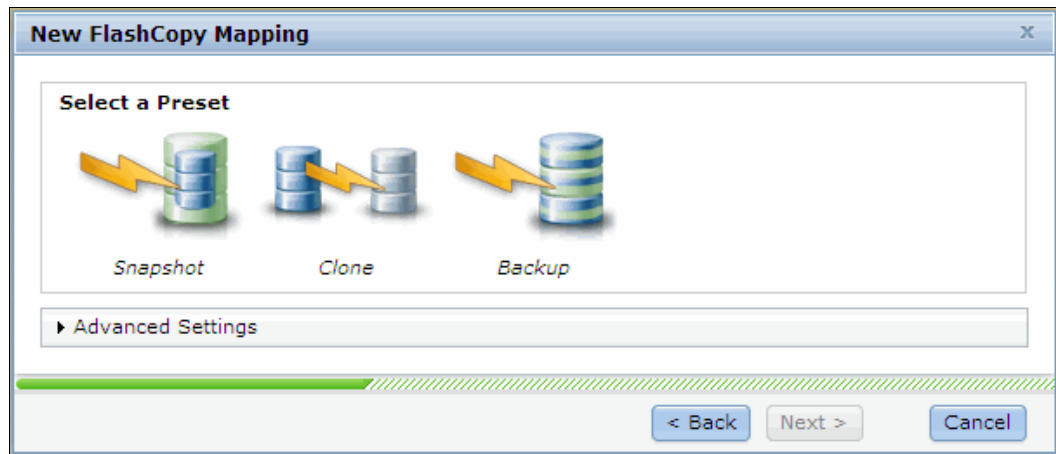

Figure 10-48 Choose snapshot preset
- Click **Next** and you see a snapshot preset choice, as shown in Figure 10-48.